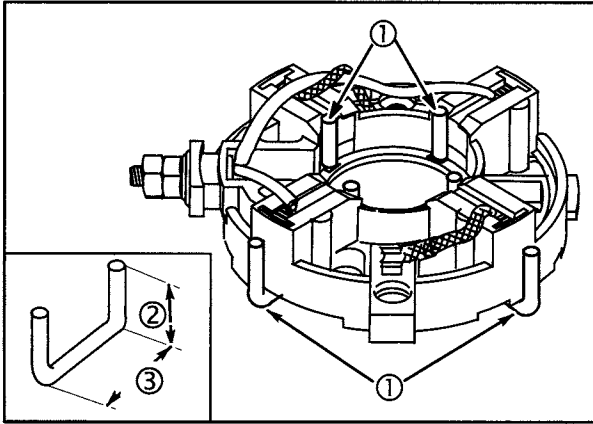

Fig. 22
End caps with radial compression type springs require 4 brush retainers (1) to hold brushes clear of armature commutator, Fig. 22.
Brush retainers can be made from Part #26634 control wire or similar material. The retainer is U shaped, with two legs $1/2$ " (13 mm) high (2), $3/4$ " (19 mm) long (3), Fig. 22, inset.